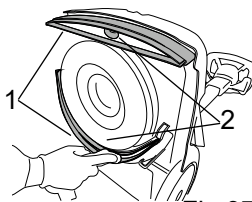

Fig. 37
- Clean the blades of both squeegees with a moist cloth (fig. 37, ref. 1).
- Clean the suction inlet port of both squeegees (fig. 37, ref. 2).